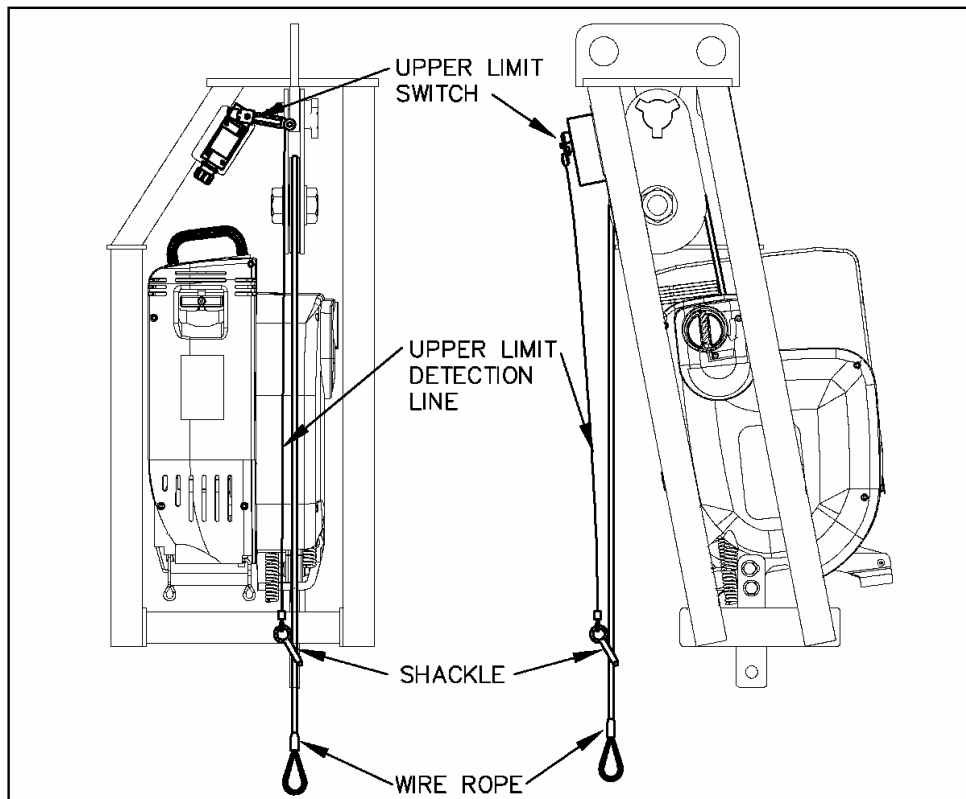

Figure 5.
1. Connect the upper limit switch sensor on the material hoist frame by capturing the wire rope with the shackle on the end of the upper limit switch detection line. If the load is raised high enough to slide the shackle upward, the upward direction of the hoist will be disabled. Refer to figure 5 for a representative illustration showing the configuration with the SC1000.